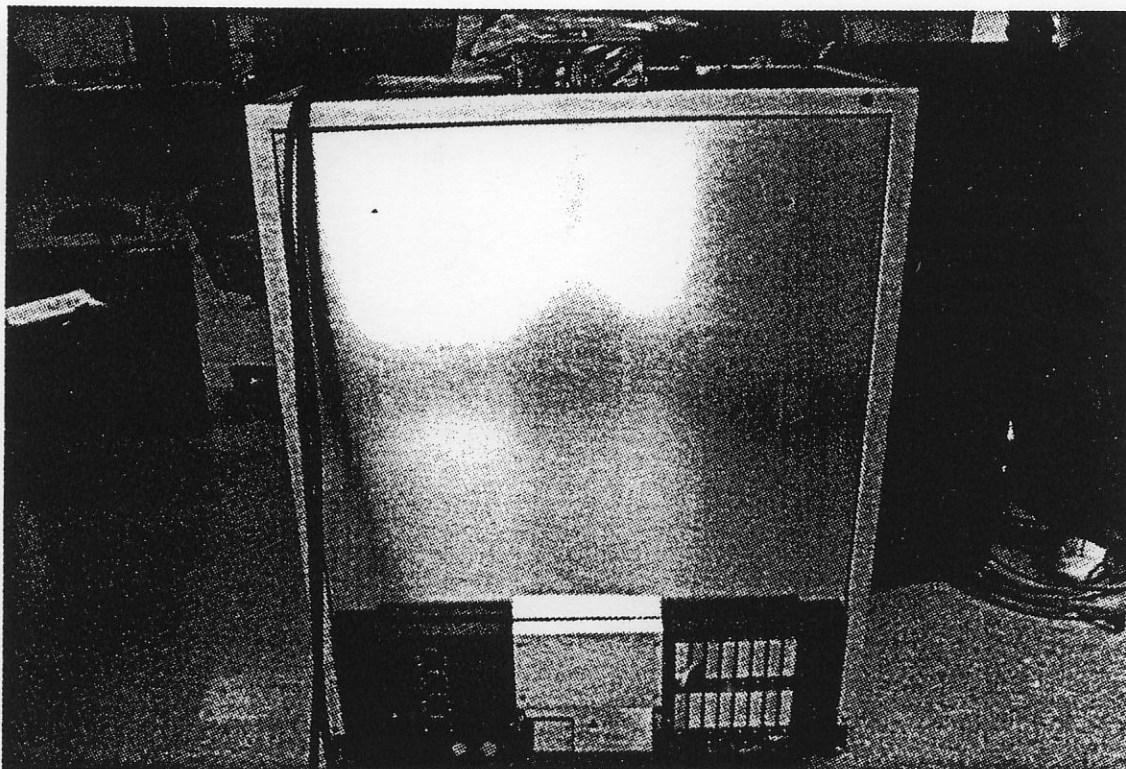

Figure 7-8. Inner Back Panel EMI Shield
3. Remove the inner back panel EMI shield (refer to Figure 7-8) by removing the four screws located near the middle of the panel.
1. Replace the inner back panel EMI shield (Figure 7-8) by placing the panel back into the frame and securing the four panel screws.